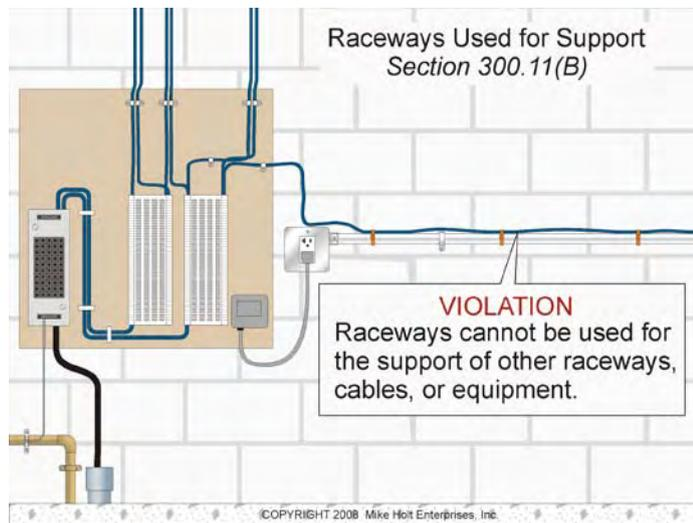

Figure 300-19
(B) Raceways Used for Support. Raceways must not be used as a means of support for other raceways, cables, or non-electrical equipment, except as permitted in (1) through (3). **Figure 300-19**